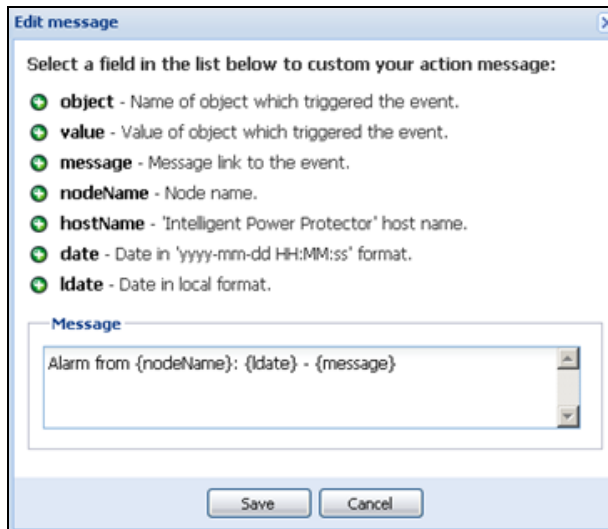

Figure 18. Edit Message Dialog
- **Message:** The e-mail message body (can be customized with pre-defined variables as shown in Figure 18).
- In the Edit message dialog (see Figure 18), click the green plus (+) button to add a variable.